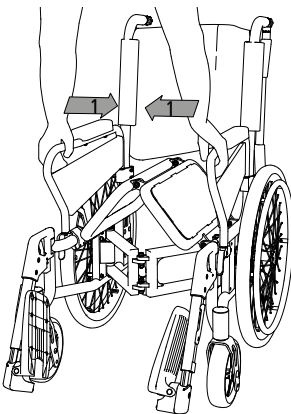

Fig. 30
6. Then grab the front area of the side panels and press both sides towards each other in the middle. The wheelchair will now fold itself up (1, Fig 30).